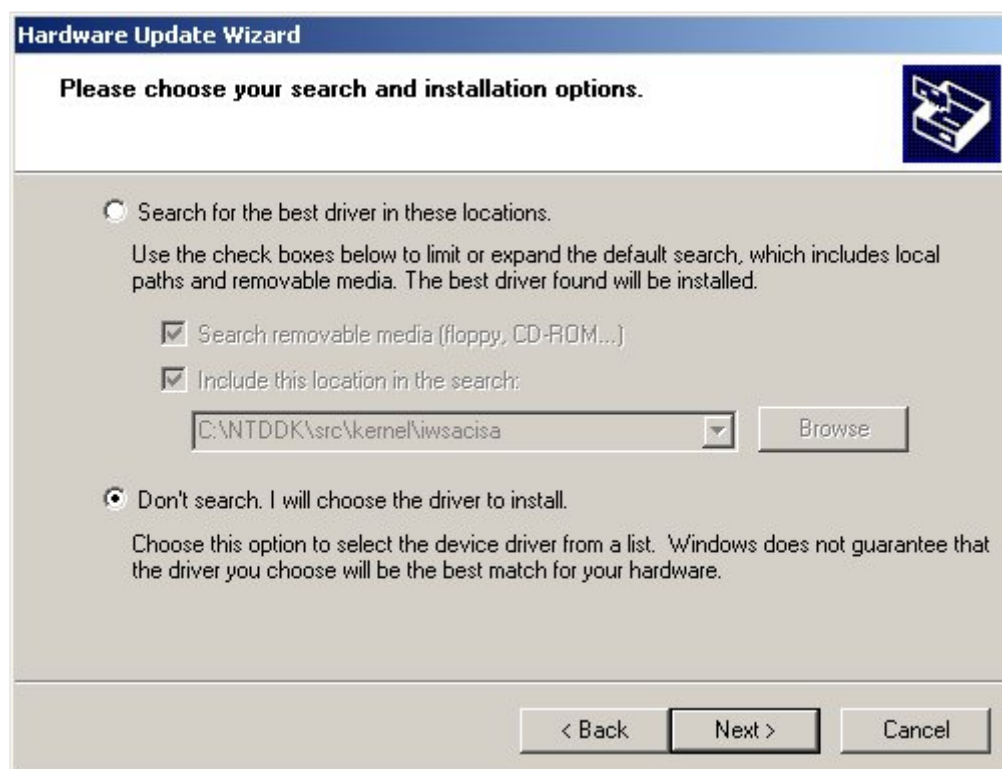

FIGURE 256. New Hardware Wizard completed screen
13. The window as in Figure 256 appears.